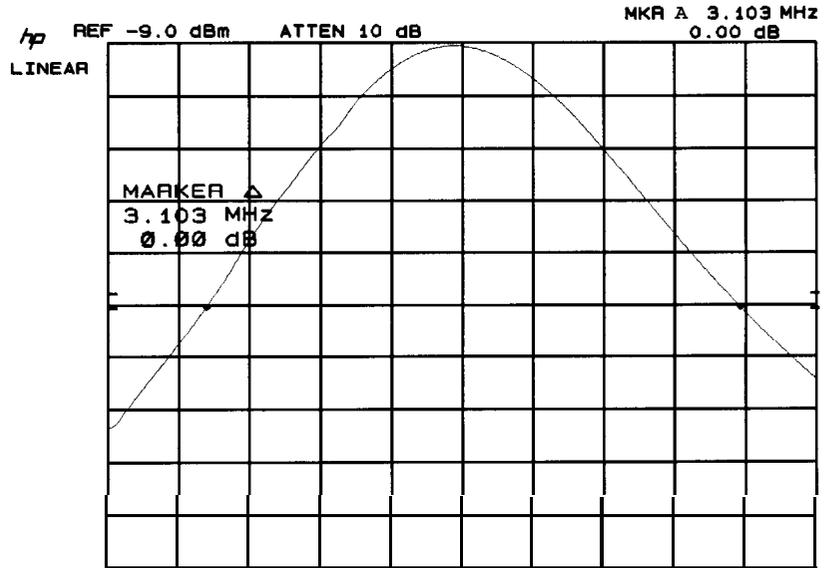

Figure 4-3. 6 dB Resolution Bandwidth Measurement
45. Press MARKER (Δ) and position movable marker 6 dB down from the signal peak on the negative going edge of the trace (the MARKER (Δ) amplitude readout should be 0.00 dB \pm 0.05dB). The 6 dB bandwidth is given by the MARKER (Δ) frequency readout. (See Figure 4-3.) Record in Table 4-2.